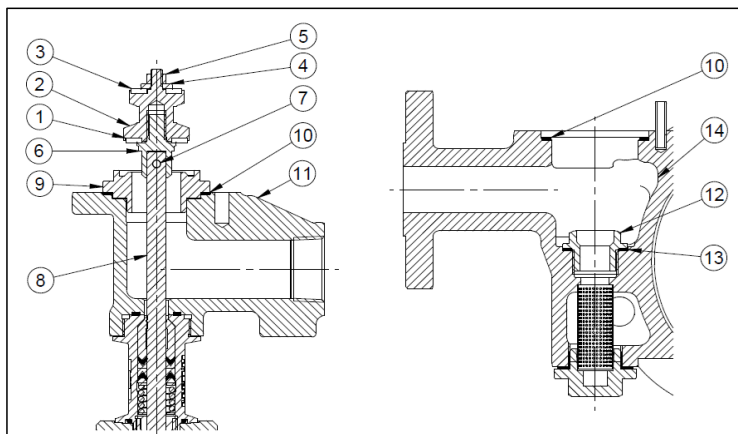

Fig. 7.11 DN 25 Actuator (Diversion) Valve
Refer to the checklist below for inspection, replacement, and maintenance procedures, along with corresponding item numbers as shown in Figures 7.11 and 7.12.
For DN25 (refer fig 7.11) :
For DN25 (refer fig 7.11):
E. Steps to replace Trap Seat (5):
- 1) Use appropriate tools to unscrew the trap seat (12) from the cover (refer fig 7.11 & 7.12, DN25 – 14, DN40/50 – 16).
- 2) Remove the trap seat gasket (13).
- 4) Place the new trap seat gasket (13) into the cover.
- 5) Hold the new trap seat (12) in one hand and Loctite LB 8150 Silver Anti-seize to the threaded portion.
- 6) Secure the trap seat (12) to the cover using the appropriate tools and torque.